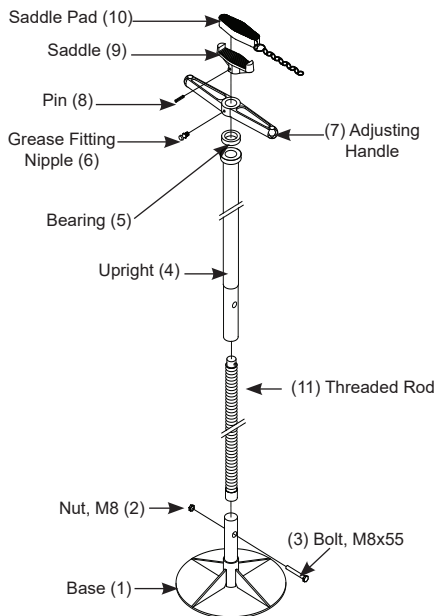

Figure 1 - 31500 Nomenclature
1. Make sure all parts are present (see Fig. 1 & 2). If any parts is missing or damage, do not attempt to assemble, install or operate the product. Contact Customer service.
2. Begin assembly by inserting smaller end of threaded rod (11) through the bottom of upright (4), allowing small end of threaded rod to project out of the top of upright.
3. Place bearing (5) over the threaded portion, then spin the adjusting handle (7) clockwise onto the threaded rod.
4. Saddle (9) can now be fastened by inserting the pin (8) through saddle & threaded rod (11).
5. a. **For Model 31500 (see Fig. 1):**